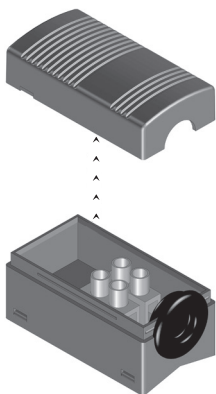

Figure 3
- ① Open the cover of temperature sensor package. (See Figure 3)